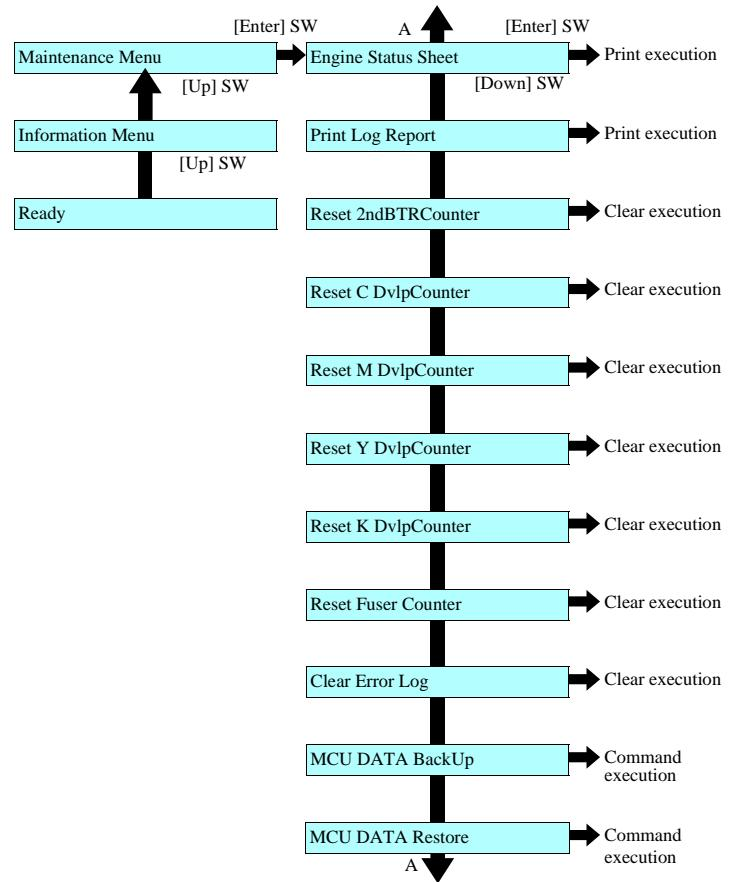

Figure 6-2. Maintenance Menu Process Flowchart
2. Refer to the Maintenance Menu process flowchart in Figure 6-2, perform each function of the Maintenance Menu by operating the panel switches.